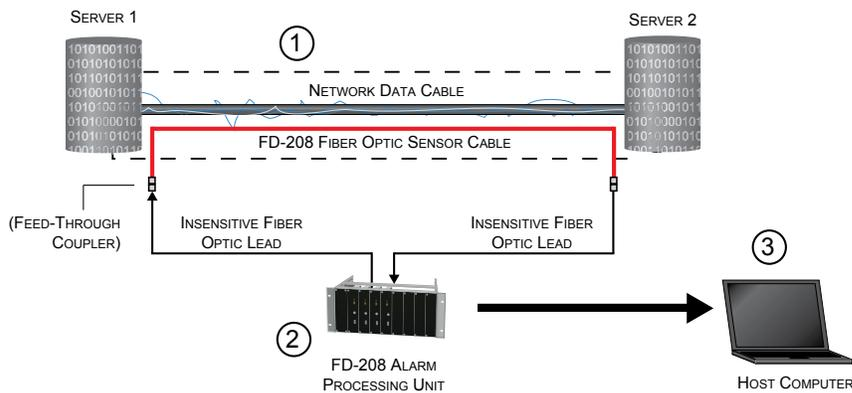
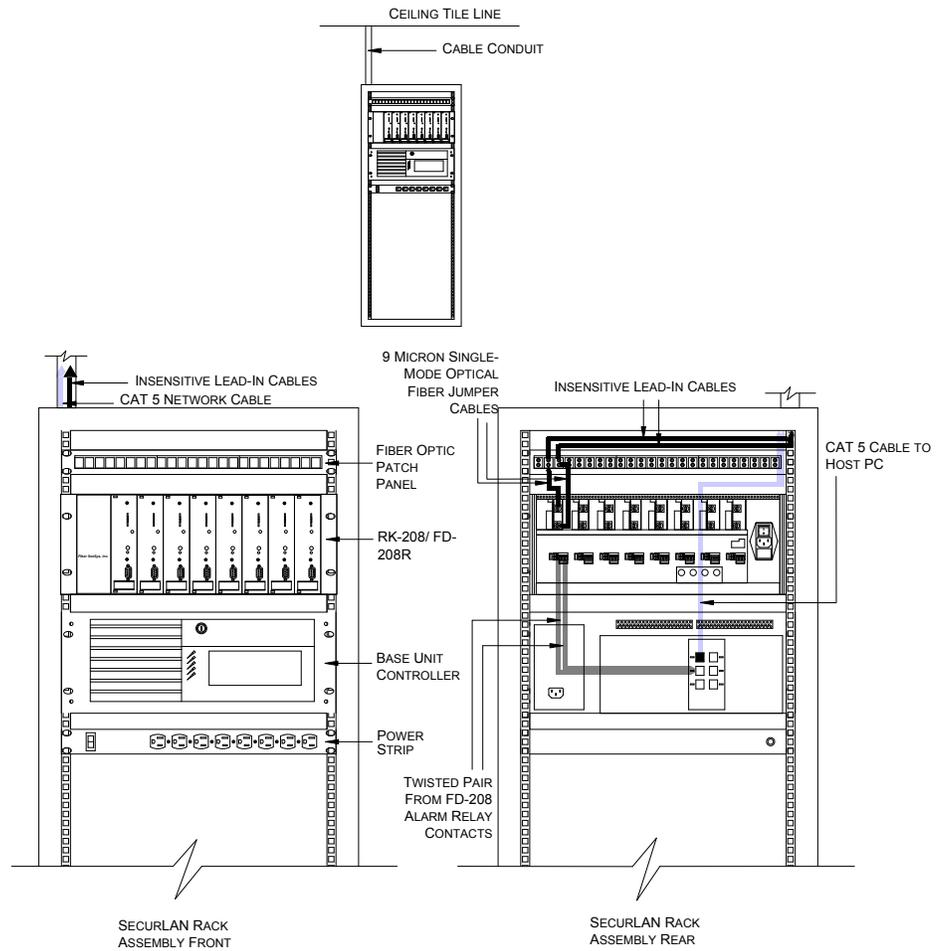

Figure 4 - SecurLAN® Basic Block Diagram
Figure 10 - Cable connection details of the rack-mounted equipment
In SecurLAN®’s basic configuration, the vibration sensing fiber optic cable is deployed in parallel with the network cable run it is intended to protect (figure 4). The sensor cable is bundled physically with the network cables.
Every FD-208 requires two (2) insensitive leads: one (1) cable on the APU input and one (1) cable on the APU output (refer to figure 4). Therefore, 1 APU module and two (2) insensitive leads are required for every zone into which the PDS is divided. This scheme can require large numbers of single-mode insensitive leads. Systems using the FD-208R/RK-208 feature generally offer a better way of managing these cables than a system using individual APUs (figure 10).